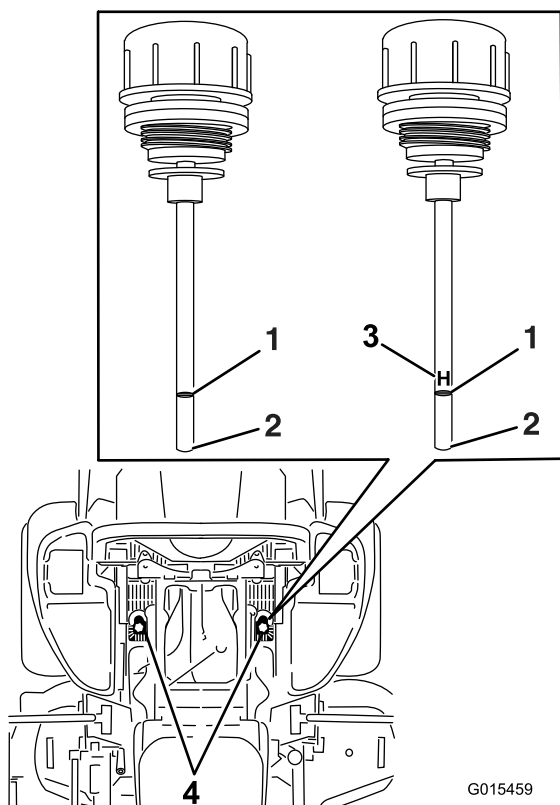

Figure 87
5. Clean the area around the dipsticks of hydraulic-system reservoirs (Figure 87).
6. Remove 1 dipstick from the hydraulic reservoir (Figure 87).
8. Remove the dipstick and look at the end (Figure 87).